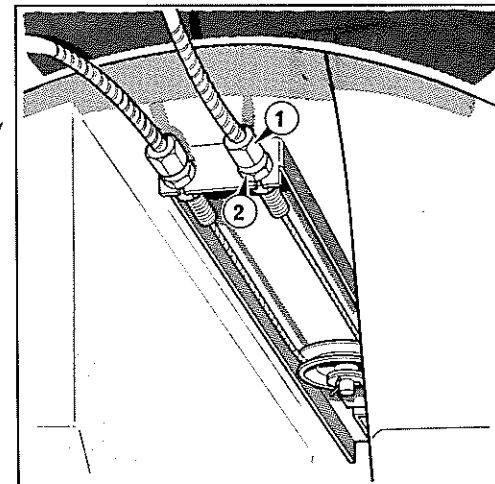

Figure 36 Handbrake adjusters
- 2 Slacken off the locknuts shown in **Figure 36**. Adjustment can then be effected by means of the main adjuster screws. Adjust the two screws equally. Re-tighten the locknuts securely.